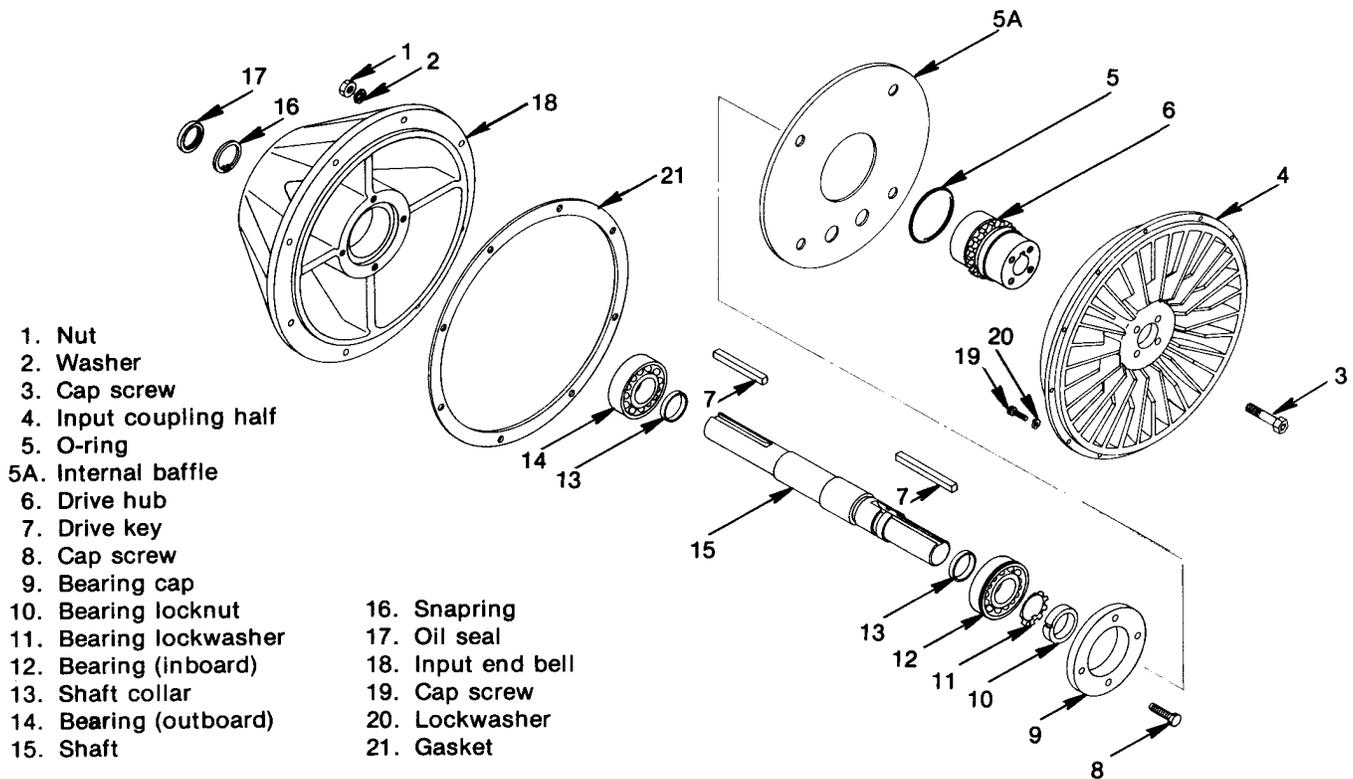
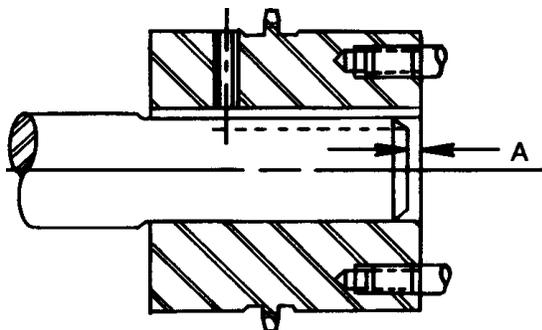
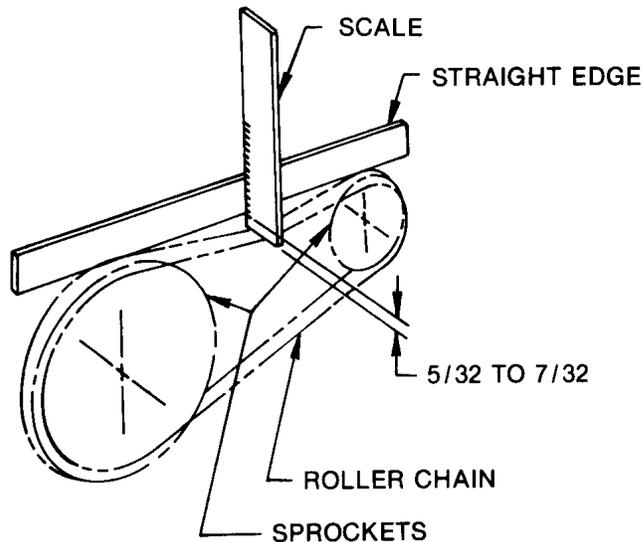

Figure 7. Input End bell
Figure 8. Drive Hub Location
Figure 9. Chain Tension Adjustment
1. Remove top plate (13, figure 4) and 12 each screws (19, figure 7) and lock washers (20) around circumference of fluid coupling. Proceed as follows:
3. Loosen nuts on oil pump bracket and shift pump to relax chain. Disengage chain from oil pump sprocket. Hang chain over drive hub (6).
5. For all units, remove 8 each nuts (1) and lock washers (2) and withdraw motor-flange assembly (M and MP), or input end bell assembly (MO), from housing. Remove chain from hub.
6. Remove 4 cap screws (3) to remove input coupling half (4) from drive hub (6).
7. Measure and record dimension A (see figure 8) before removing drive hub. Loosen the 2 set screws in hub (6, figure 7). Wipe oil from the hub.
1. Install shaft collars (13, figure 7) on shaft (15). Press bearings (12 and 14) on shaft, applying force only to inner races.
2. Clamp shaft in smooth-jaw vise. Install bearing lock washer (11) and bearing lock nut (10). Securely tighten locknut, then bend tabs. of lock washer tightly against lock nut.
3. Install snap ring (16) in input end bell (18) and insert shaft bearing assembly in end bell.
4. Install bearing cap (9) and attach with 4 cap screws (8). Tighten screws evenly.
5. Install a new oil seal (17) as directed for Seal Replacement, steps 5 thru 7.
CAUTION The location of the drive hub relative to the end of input shaft governs the running clearance of rotating element of fluid coupling. To avoid possible interference, the same hub and shaft should be reassembled, and, in all cases, the same assembly dimension A [see figure 8] [recorded at disassembly] must be used when the drive is reassembled.
1. Apply Loctite No. 601, or equivalent, to bore of drive hub and OD of motor shaft. Insert key (7) in shaft slot and install hub on shaft so that dimension A, figure 8, is the same as recorded at disassembly. Firmly tighten two set screws in hub and recheck dimension A.
2. For the M and MP units attach the motor mounting flange to the motor, making sure the internal baffle (5A, figure 7) is secured under the washers and bolt heads. Make certain that O-ring (5) is against baffle. (If 2 O-rings are used, carefully move baffle into position so that O-ring between baffle and motor remains in contact with baffle.)
3. Hang chain on drive hub and attach input coupling half (4) to drive hub with 4 cap screws (3). Tighten each screw alternately several times so that the coupling half is not cocked on the drive hub.
4. Install the motor-flange assembly (M, MP) or input end bell assembly (MO) on the housing using a new gasket (21). Make certain that large rectangular hole in end bell bore is at the bottom. Attach with washers (2) and nuts (1), cross-tightening uniformly and securely.
5. Install chain over sprockets of drive hub and oil pump. Shift pump to provide correct chain tension (see figure 9) and tighten nuts on pump bracket. Recheck chain tension and alignment. If alignment and tension are not correct, life of chain or sprockets will be reduced.
6. If output has not been disassembled, rotate input by hand to be sure there is no interference. If free, align input coupling half and coupling cover and install 12 each lock washers (20) and cap screws (19). Cross-tighten screws uniformly and securely.
7. Insert square key (13) in shaft key way and install output hub (12). Secure with plain washer (11) and hex. stop nut. Tighten nut securely.
8. Nest output coupling half (8) in coupling cover (9). Align coupling half with output hub and attach with 4 hex. head cap screws (7). Tighten screws securely.
9. Locate a new gasket (same as item 21, figure 7) on end bell and install end bell-coupling assembly on housing. Attach with 8 each lock washers (2, figure 6) and hex. nuts (1), cross-tightening uniformly.
10. Align coupling cover with input coupling half and attach with 12 each lock washers (20, figure 7) and cap screws (19). Tighten screws uniformly and securely.